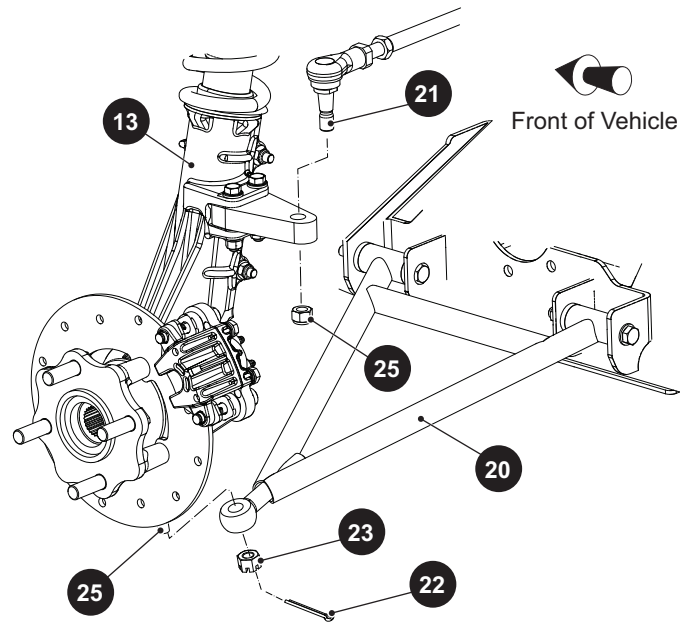

Fig. 3 Control Arm and Tie Rod End Attachment
7. Remove the cotter pin (22) and castellated nut (23) attaching the lower ball joint to the control arm (20) (Ref. Fig. 3).
8. Loosen, but do not completely remove, the lock nut (24) connecting the outer tie rod end (21) to the strut assembly (13).
9. Free the outer tie rod end (21) by tapping upward using a rubber mallet.
10. Remove the lock nut (24) from the outer tie rod end (21).
11. Remove the cotter pin (22) and castellated nut (23) securing the control arm (20) to the lower ball joint (25).
12. Separate the lower ball joint (25) from the lower control arm (20) using a ball joint separator (Ref. Fig. 3).